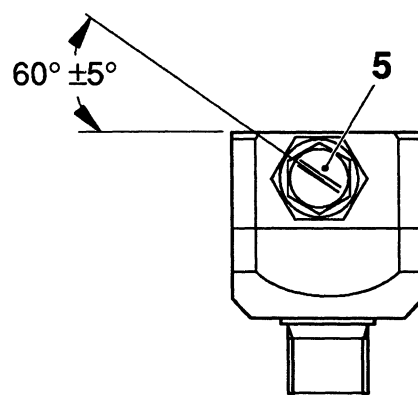

Fig. 3
- Set the jet direction of the nozzle (5) at $60^\circ \pm 5^\circ$ angle and nozzle (6) at $10^\circ \pm 5^\circ$ angle to the cover, see fig. 3 and fig. 4.
- a) Set the nozzles (10) so that the slots are horizontal.
- b) Set the jet direction of the nozzle (9) at $45^\circ \pm 5^\circ$ angle and the nozzle (8) at 70 ± 5 mm distance from the inside of the tray, see fig. 3.